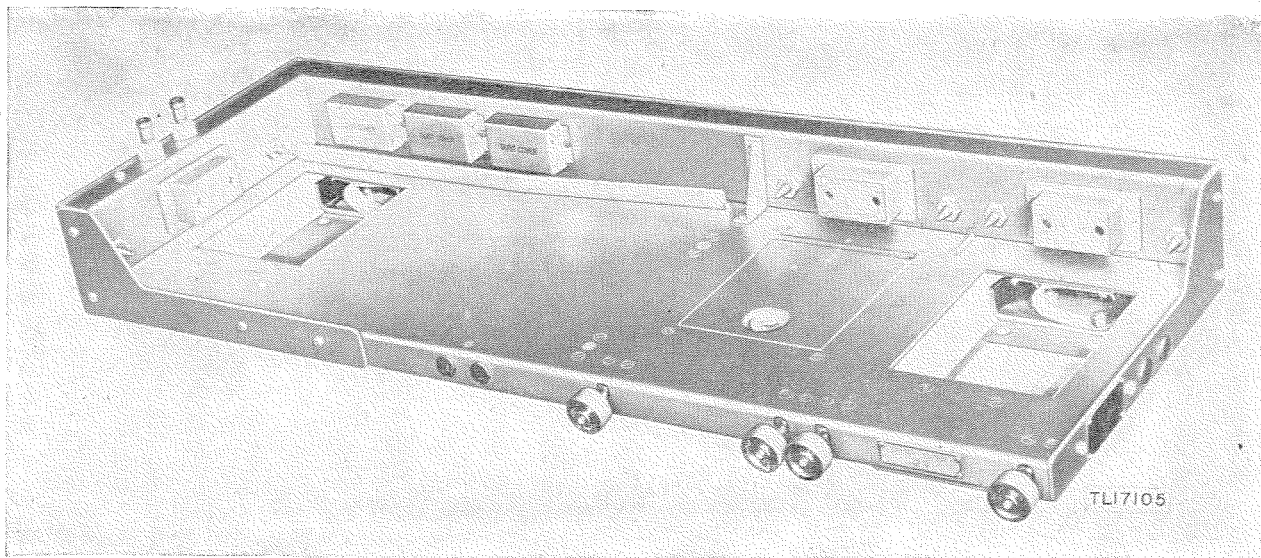
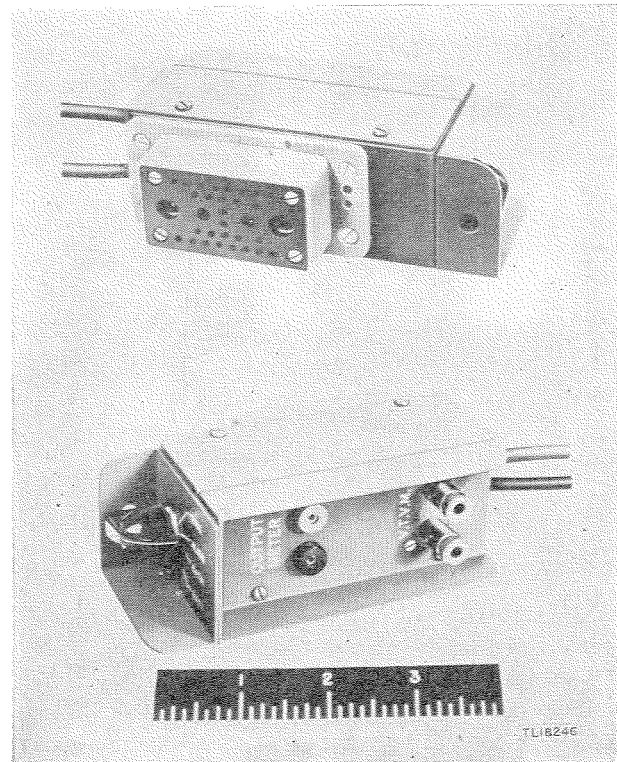

Figure 17. Mounting FT-237-(\*)—oblique front view.
Figure 19. Adapter FT-384-(\*)—front and back views.
b. Connect the receiver to the appropriate battery, using either mounting FT-237-(\*), fig. 17 and Cord CD-786, or Adapter FT-384-(\*). (See fig. 19.)